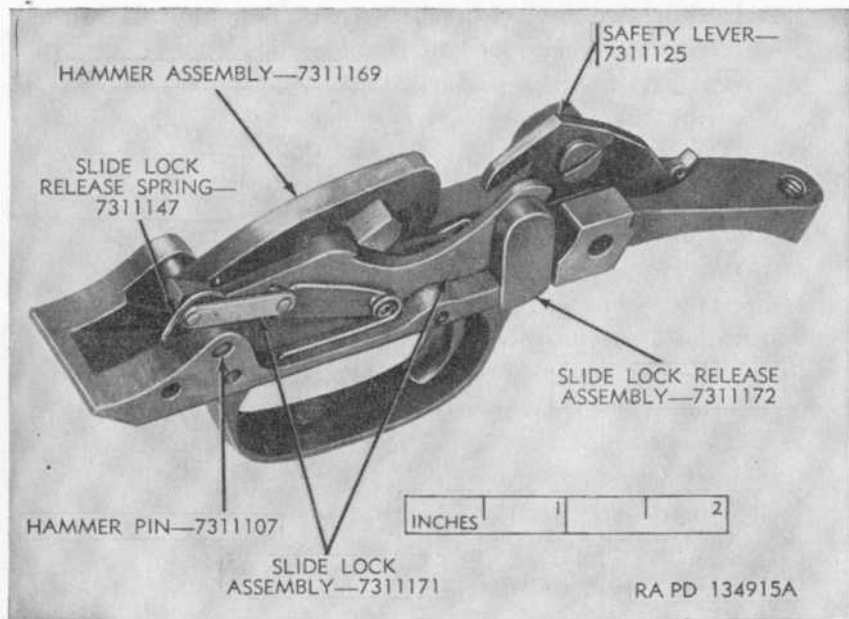

Figure 45. Trigger guard group for Stevens shotgun M520-80.
- (1) *Removal of trigger guard group.* Remove trigger guard group from the shotgun as described in paragraph 44e.
- (2) *Disassembly of trigger guard group for Stevens shotgun M520-30 (figs. 45 and 46).*
- (1) *Assembly of trigger guard group for Stevens shotgun M520-30* (figs. 45 and 46).